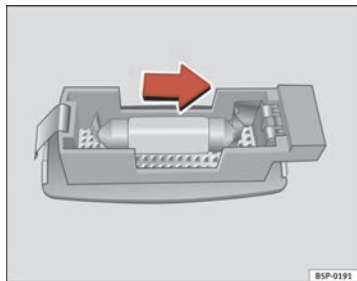

Fig. 203 Removing sunroof light
- Carefully remove the lamp, using the flat side of the screwdriver, as shown in the figure ⇒ fig. 203.
- Remove the bulb, moving it in the direction of the arrow and outwards ⇒ fig. 203. ■